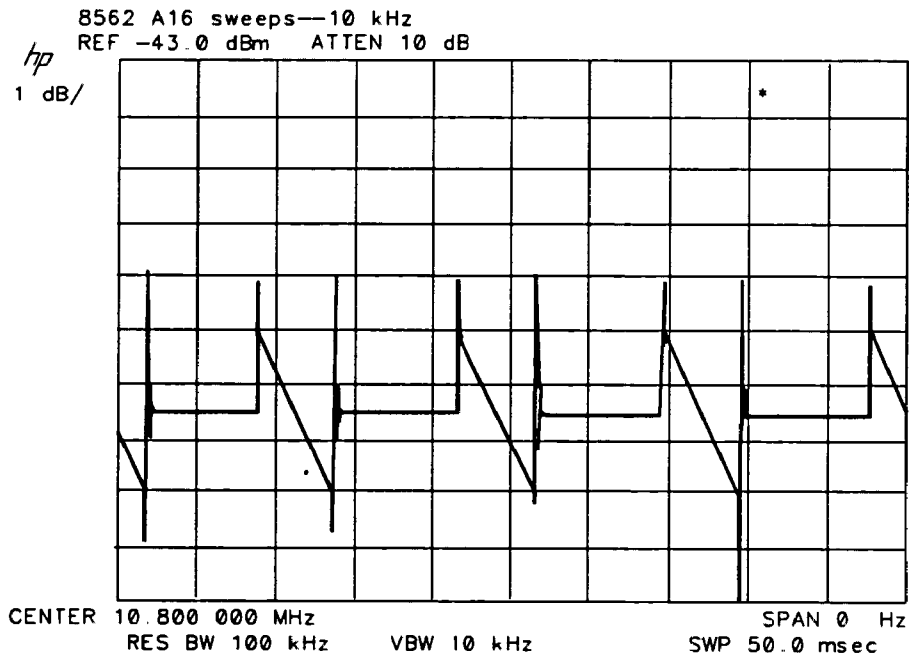

Figure 9-16. Output Waveform, 10 kHz RBW
7. The HP 8566A/B screen illustrates frequency verses time of the A16's output sweeps. See Figure 9-16. The slope of the HP 8566A/B's 100 kHz RBW is used to detect frequency changes. Sweeps which vary (>30%) from the normal trigger error code 581 or 582.